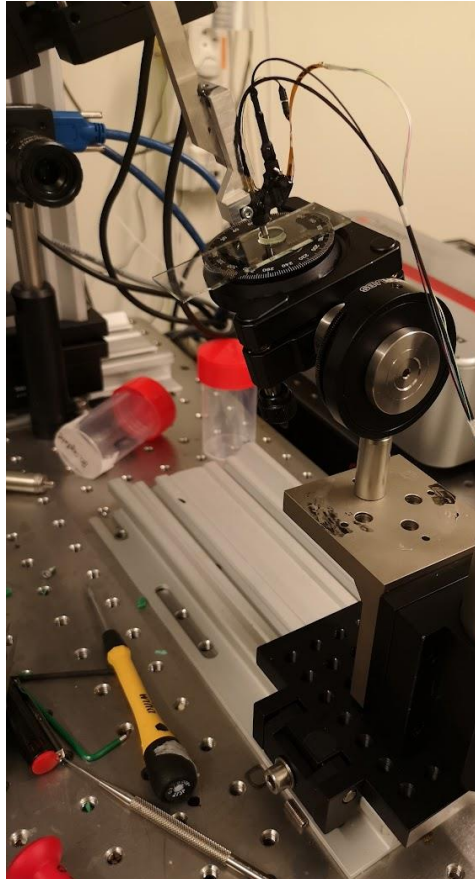

Fig.4.4: Example setup for distortion grid, with 20-degree angle suitable for MEC implantation.
- Glue the grid sample to a rotator and adjust its position such it is parallel to the scope holder and miniscope (see Fig.4.4)